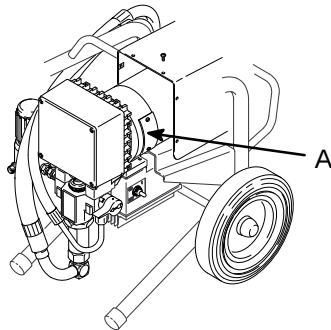

Fig. 14
1. Remove both inspection covers (A) and their gaskets. See Fig.14.